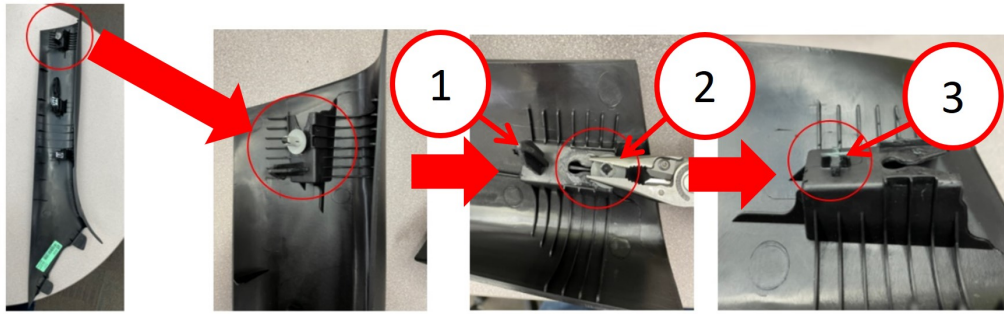

Fig. 2
- Using the new A-Pillar trim and a suitable pliers tool, remove gray pin from the A-Pillar trim by pulling pin out of trim groove (Fig. 2) .
- Using a suitable cutting tool, cut away as much of the 4-way locator pin as possible (Fig. 2) .